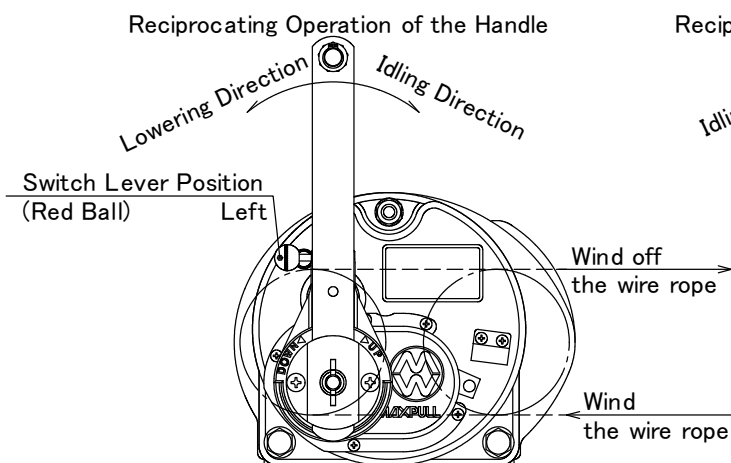

Figure 11 Switch Lever Position at Lowering Operation
- (1) When unwinding (lowering) the wire rope from the drum, set the switch lever (red ball) to the left as viewed from the front of the winch as shown in the Figure 11.